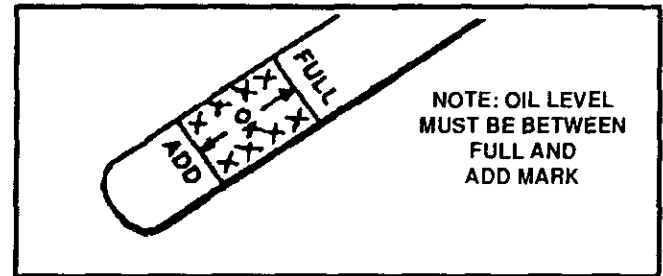

FIG. 4
Check the crankcase oil level (See FIG. 4) before starting the engine and after each five (5) hours of continuous use. Add S.A.E. 5W-30 motor oil as needed. Tighten fill cap/dipstick securely each time you check the oil level.